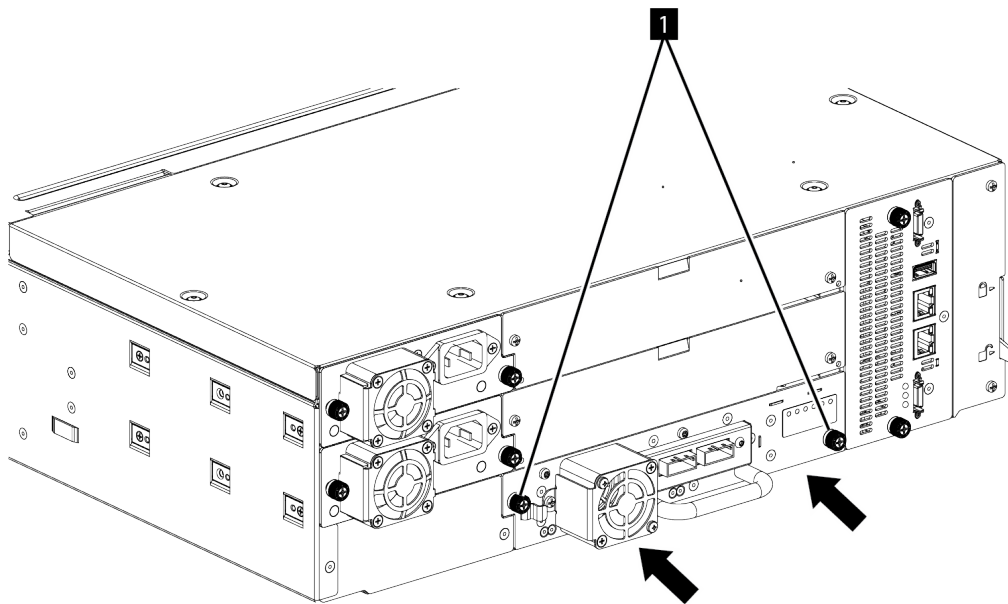

Figure 61. Installing a tape drive
3. Tighten the captive thumbscrews (1 in Figure 61 on page 140) with your fingers until the tape drive is secure.